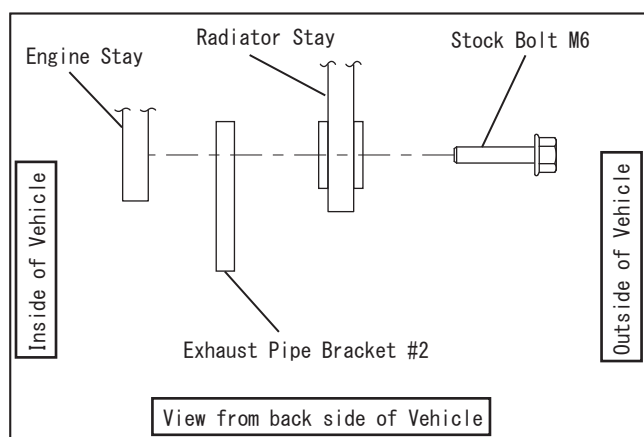

FIG. 3
- 4) Use the 2 stock bolts to mounting Exhaust Pipe Bracket #2. Tighten bolts by hand at this stage (see Fig. 3,4)
CAUTION Please be careful mounting Exhaust Pipe Bracket#2. The bracket position is between Radiator and Engine Stay (See Fig. 3,4)